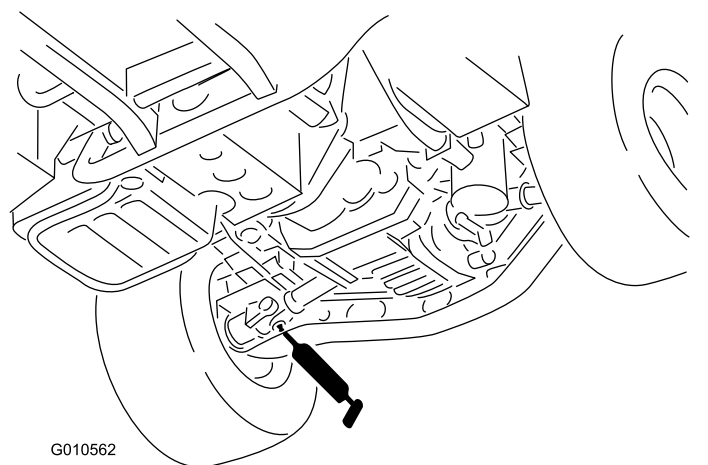

Figure 38
- U-joint (18) as shown in Figure 38